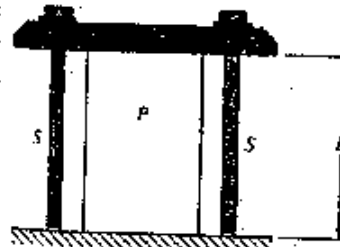

Fig. 3
- (3) A plastic cylinder P is held between a rigid plate and a foundation (see Fig. 3). Determine the compressive stress σ_p in the plastic when the nuts on the steel bolts S are tightened by one complete turn. Data for the assembly are as follows: length $L = 250$ mm, pitch of the bolt threads $p = 1.2$ mm, modulus of elasticity for steel $E_s = 200$ GPa, modulus of elasticity for the plastic $E_p = 7.5$ GPa, cross-sectional area of one bolt $A_s = 36.0$ mm², cross-sectional area of the plastic cylinder $A_p = 960$ mm². (10%)